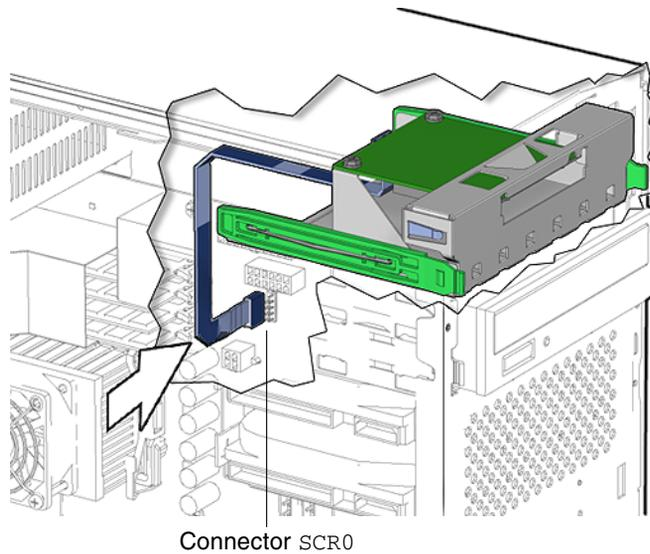

FIGURE 12-20 Connecting the Smart Card Reader Interface Cable
9. Reconnect the smart card reader interface cable to the motherboard at connector SCR0. See FIGURE 12-20.